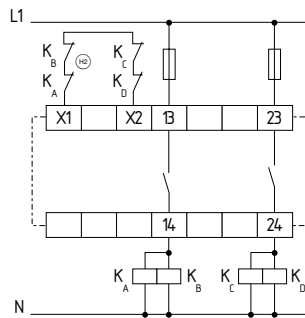

Fig. 10
**Dual-channel control with feedback circuit (Fig. 10)**